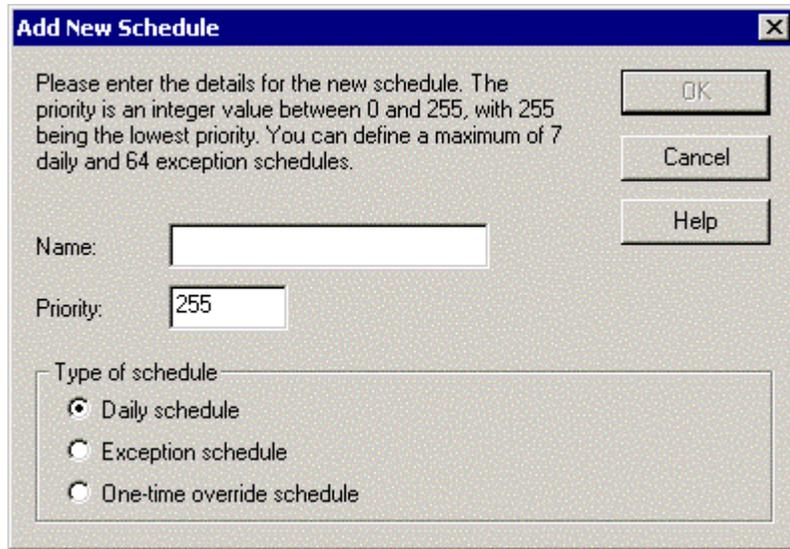

Figure 5.12 Add New Schedule Dialog
4. Click **Add** under the **Schedules** list to open the **Add New Schedule** dialog, shown in Figure 5.12.